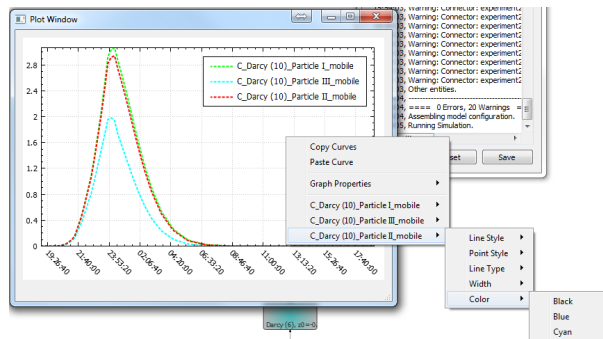

Figure 4.4: Particle breakthrough curves for the three particle classes
- Do the same with particle III to see the three breakthrough curves for the three particle types in a single graph. You can change the format of each curve by right-clicking on the graph and selecting the name of each curve (Figure 4.4).